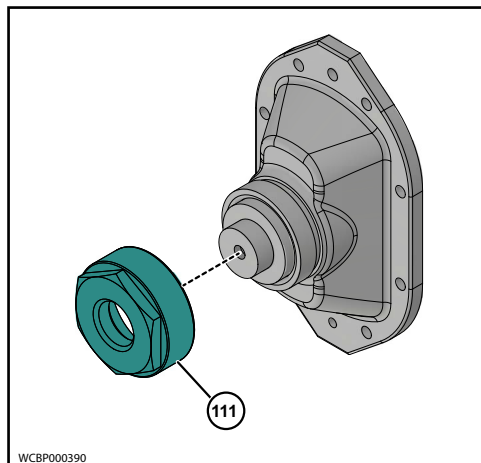

Figure 100 -Install Cover Nut
3. Apply the anti-seize on the cover port threads and tighten the Cover Nut (111) onto the Cover port, as shown in Figure 100.